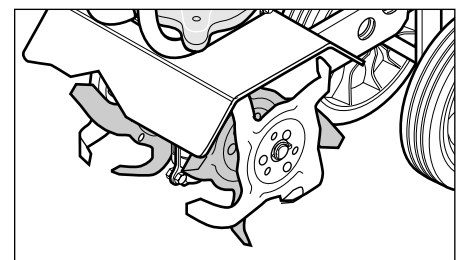

Figure 14: Stony soil tine pattern.
4. Reinstall the two outer tine sections onto the sides from which they were removed (Figure 14).